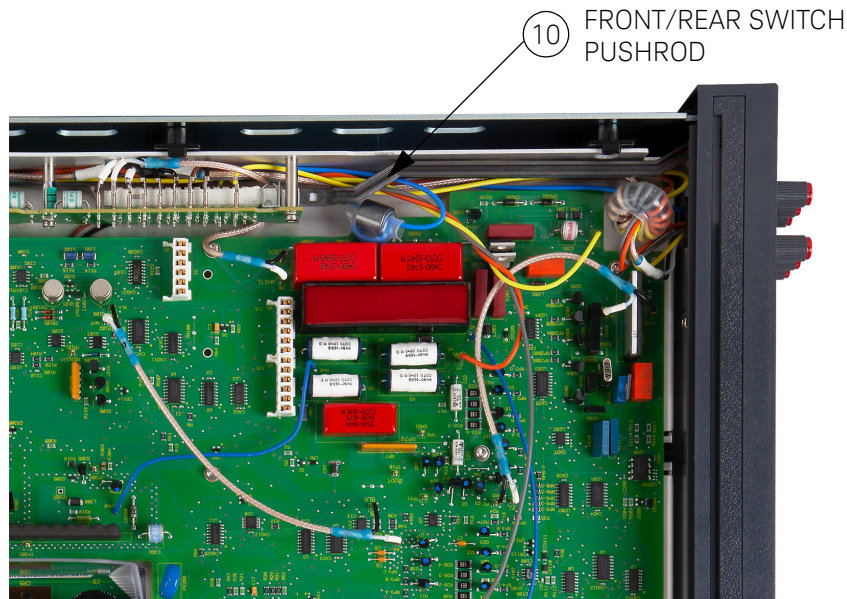

Figure C-8 Front/rear terminal switch and pushrod location
- 3 Refer to **Figure C-8**. Locate the pushrod for the Front/Rear Terminal switch. Pull the pushrod off. You may need to pry the pushrod loose with a small flat blade screwdriver. Set the switch in the position it is to be used.